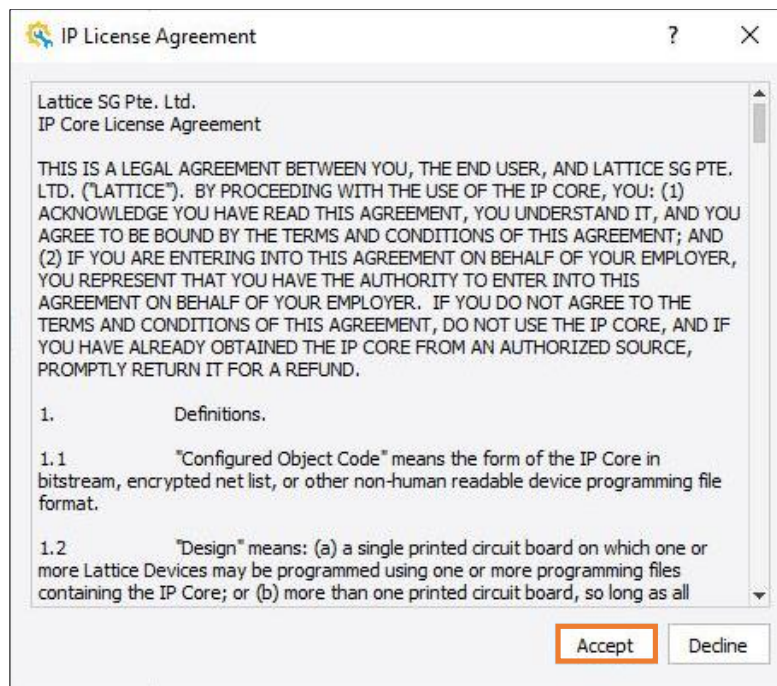

Figure 7.7. Accept IP License Agreement
4. In the **IP License Agreement** window, click **Accept** to finish the IP installation, as shown in Figure 7.7.